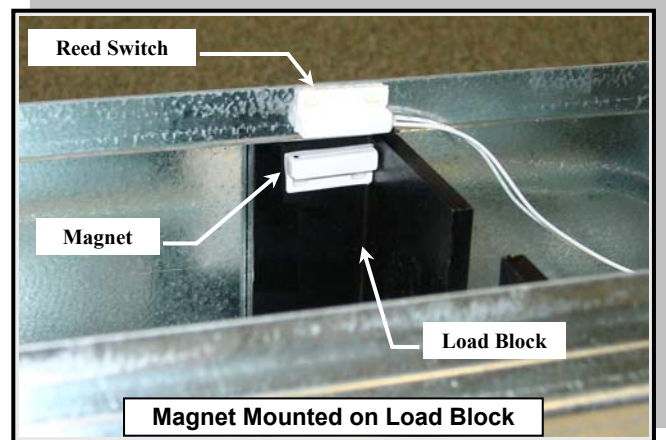

FIGURE 4
* Refer to Figures 4 and 6 for photos of the listed parts.
5. Line-up the reed switch with the magnet and attach the reed switch to the center of the cabinet flange. The wires of the reed switch should be routed toward the motor end. **Refer to Figures 4 and 5.**